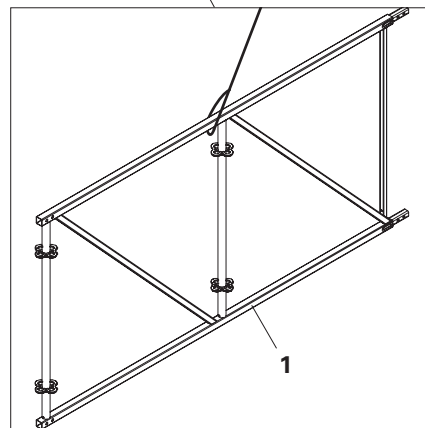

Fig. A4.01b
Attachment points on the Standard Element URB in the centre. (Fig. A4.01b)
Fig. A4.01b shows the position of the crane splice on the LGS Standard Element URB 300/150 (1) without additional assembly.